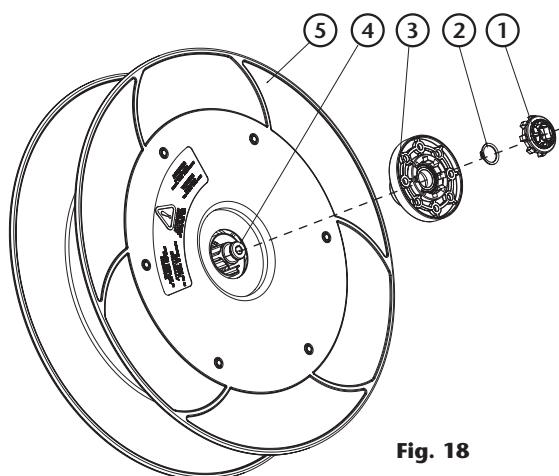

Fig. 18
11. With the spool assembly outside the casing, the Tensor piece (1) (fig. 18) is released, take it apart without disassembling its inner metallic sheet. Keep it to be able to install again later.
12. Move away the circlip (2) (fig. 18) which keeps the spring fixation on the spool shaft (4) (fig. 18). Take apart the spring fixation (3) (fig. 18), without disassembling the bearing located inside it. Keep all the components to be able to reassemble later.
15. Mount the spring fixation (with its bearing inside) (3) (fig. 18) through the brass shaft, and fasten it in its position using the circlip (2) (fig. 18).
16. Place the Tensor piece (1) (fig. 18) (with its metal sheet assembled inside) over the spring fixation (3) (fig. 18). This Tensor piece will be loose, so hold it with your hand while taking the spool assembly inside the casing (the one with no service window). Make sure the Tensor piece fits in the casing central hole.